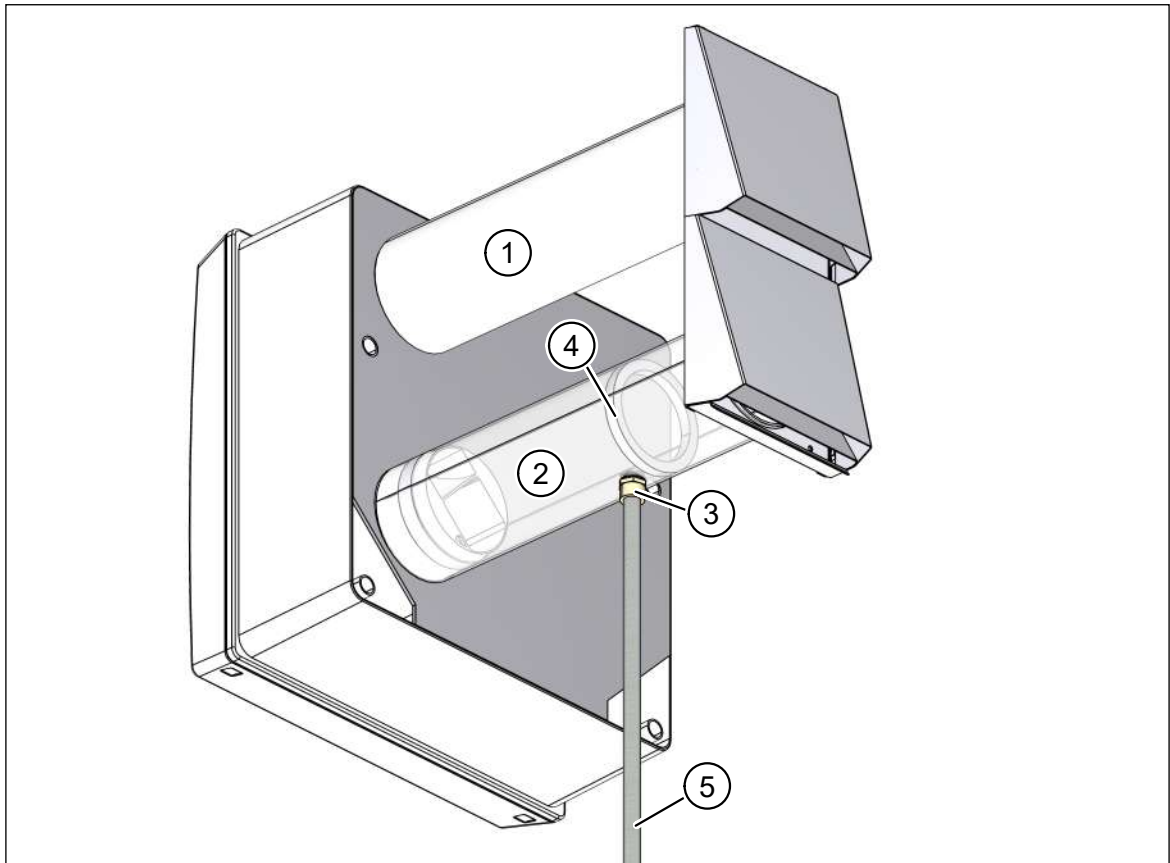

Fig. 33: Condensate drain on the exhaust air pipe
- Outdoor air pipe, DN 100, 0.5 m (item 1 in Fig. 33)
- Exhaust air pipe, DN 100, 0.5 m (item 2 in Fig. 33), with 1/2" male thread connection (item 3 in Fig. 33) and barrier (item 4 in Fig. 33) for retaining the condensate.
- In cold regions, protect the condensate drain pipe (item 5 in Fig. 33) against frost, e.g. by running it behind the facade insulation.